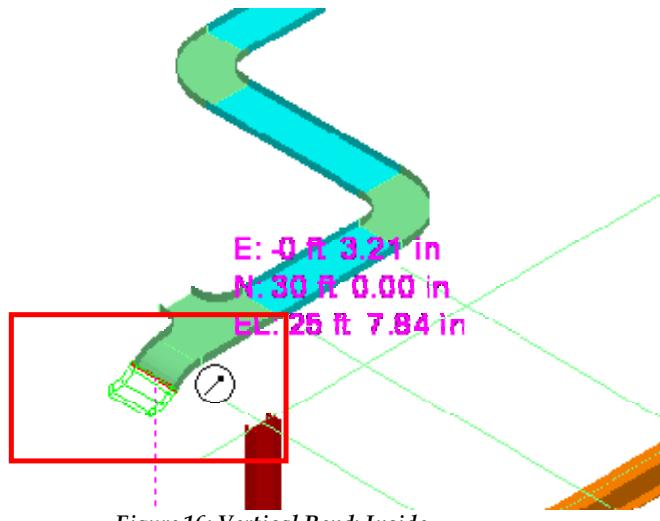

Figure 16: Vertical Bend: Inside
- After selecting the **Part Number** in the **Select Part** dialog box, click **OK**. The vertical bend in the graphic view should resemble the highlighted section of Figure 16.